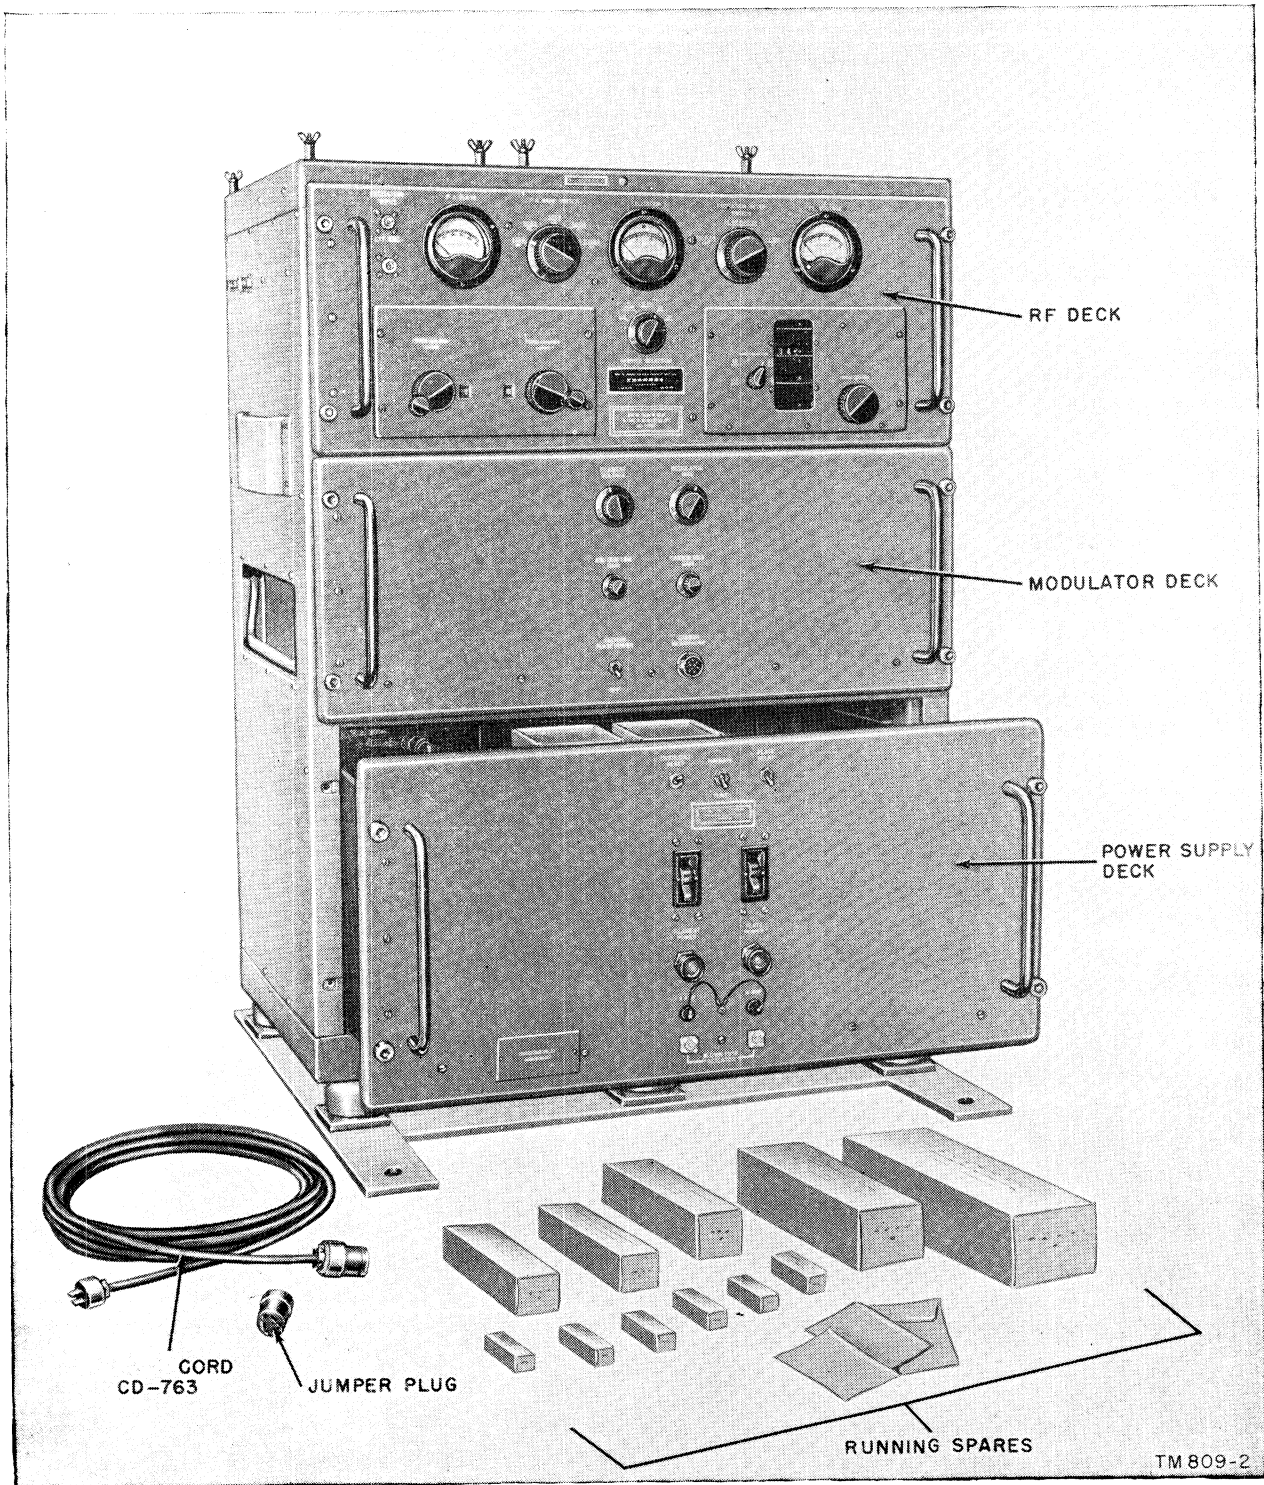

Figure 3. Radio Transmitter T-368/URT, components.
## 7. Table of Components (fig. 3)
*b.* The rf deck (fig. 3) contains all the rf controls and the meters of the equipment on its front panel. Each tuning control contains its own mechanical counter. The other controls and the meters are read from their respective panel markings. Two coaxial receptacles FSK and EXT EXC provide a means of bringing in outside signals for increasing the types of service selected by the SELECT-OR SERVICE switch. The exciter stages are mounted on subassemblies (fig. 50) and may be removed easily for servicing and adjusting.
*c.* The modulator deck (fig. 3) contains all of the modulation controls of the equipment. The chassis contains a speech amplifier subassembly (fig. 65) which can be easily removed for testing purposes. A receptacle is provided to connect either a hand-key or a microphone to the transmitter.
*d.* The power supply deck (fig. 3) contains the protection and indicator devices and all of the ac controls except the THERMAL RESET switch of the equipment. A subpanel covers the two controls used to adjust the overload relay. The panel lamps, fuses, and blown fuse indicators are located on the front panel.